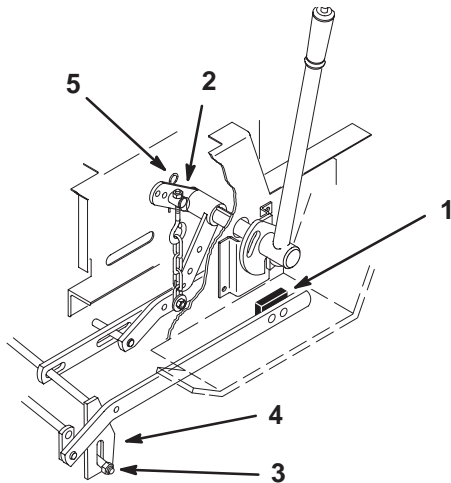

Figure 11
2. Adjust lift chain by turning trunnion on eyebolt in rear hole of tractor lift (Fig. 11). Turn trunnion clockwise to raise or counterclockwise to lower mower.
3. To adjust side-to-side level, loosen the leveling bolts. (Fig. 11).
4. Adjust the deck level and then tighten leveling bolts. (Fig. 11).